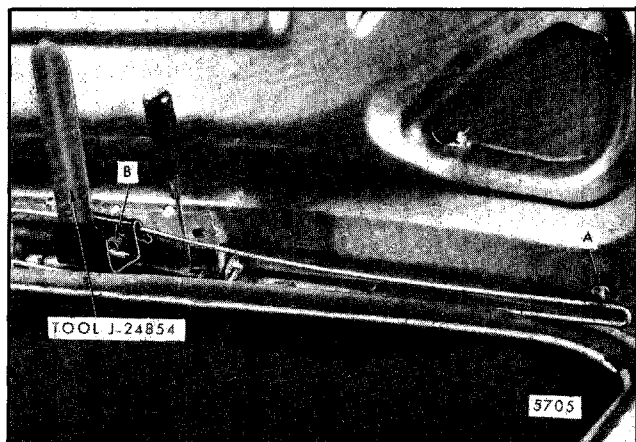

Fig. 7-5-Rear Compartment Lid Removal - "11" Styles
3. Using large flat-bladed tool, pry torque rod rearward to enable grasping loop of torque rod with torque rod removing tool J-24854 or equivalent, as shown in Figure 7-5. Finger tighten torque rod removing tool retaining screws ("B", Fig. 7-5) to prevent tool from disengaging from rod during removal operation.